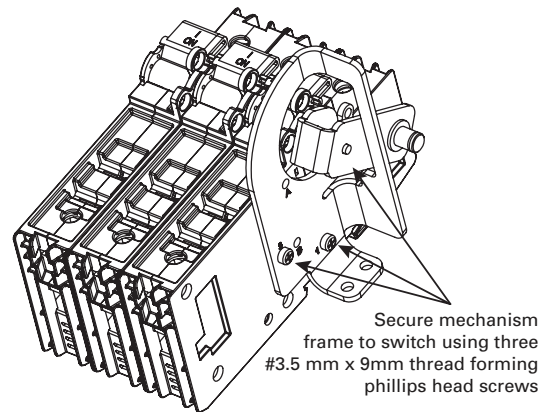

Fig. 2-3. Secure mechanism frame to switch using three 3.5 mm x 9 mm thread forming phillips head screws in holes marked 1, 2 and 3.
Step 3. Secure mechanism frame to the switch's right side using three 3.5 mm x 9 mm thread forming phillips head screws placed in holes marked 1, 2 and 3. Torque to 12 lb-in (see Fig. 2-3).